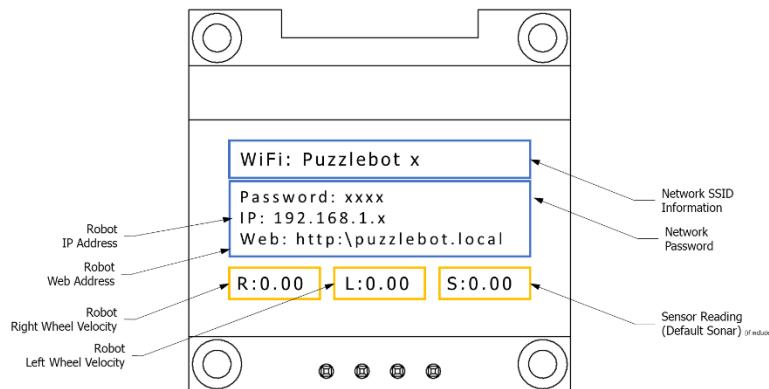

FIGURE 37 LCD SCREEN INFORMATION
2. Type in the search bar (address bar) the IP Address of the robot as displayed on the LCD screen in Figure 37.